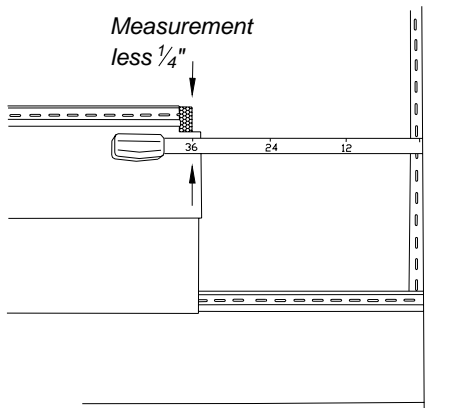

Figure 7.
- When determining the length of the final panel of a course, measure from end of foam to corner, J channel, etc., less $\frac{1}{4}$ " ($\frac{3}{8}$ " under 40°). Transfer this measurement to the panel being careful to measure the foam, not the face of the panel. This will result in the correct panel length incorporating the gap for expansion (Fig. 7).